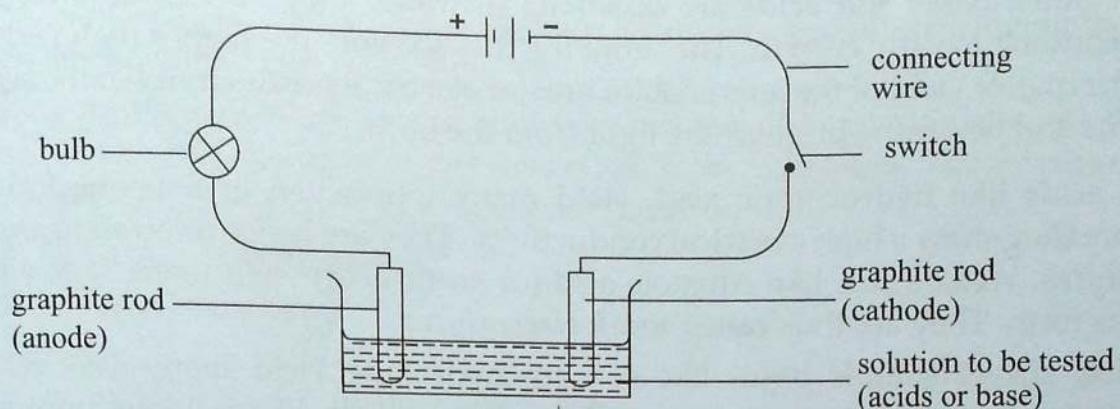

Fig. 2.2: Investigating electrical conductivity in acids and bases
2. Make a circuit using carbon rods, wire and switch as shown in Fig. 2.2.